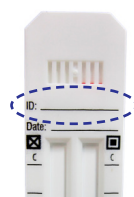

Figure 7. Allocated space
3. While the subject collects the sample, his or her identification must be written on the front of the diagnosis card in the space allocated (Figure 7).